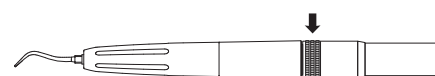

Fig. 1
- Set the supply air pressure at 0.28MPa (2.9kgf/cm2) at the connection where the scaler is connected to the handpiece hose, as shown by the arrow in Fig.1.